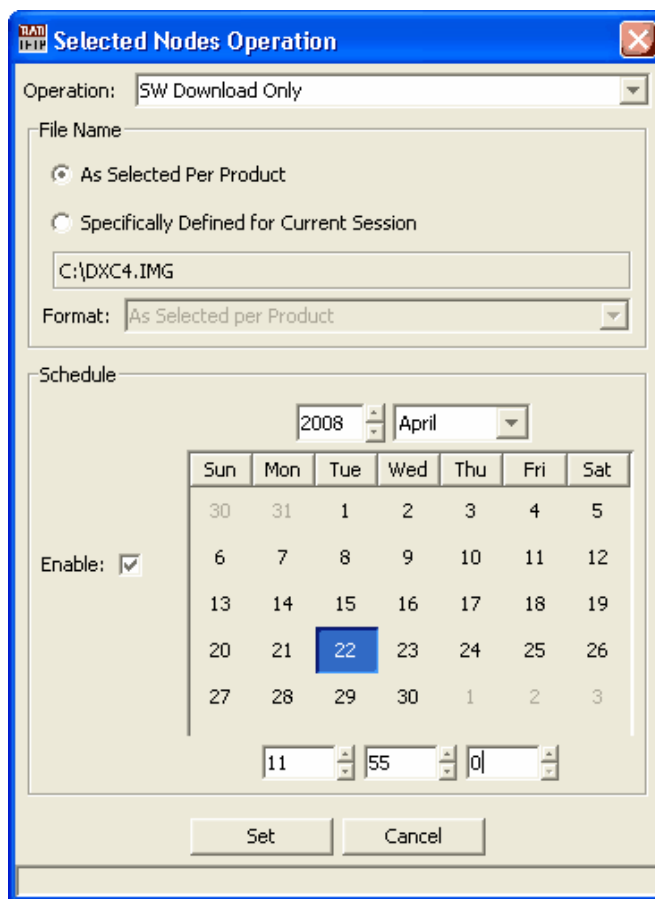

Figure 4-13. Selected Nodes Operation Dialog Box – Selection
2. If using **Selected Nodes Operation**, select any S/W and Configuration Transfer operation. Only options that are supported by all nodes of the list are selectable (see Figure 4-13).